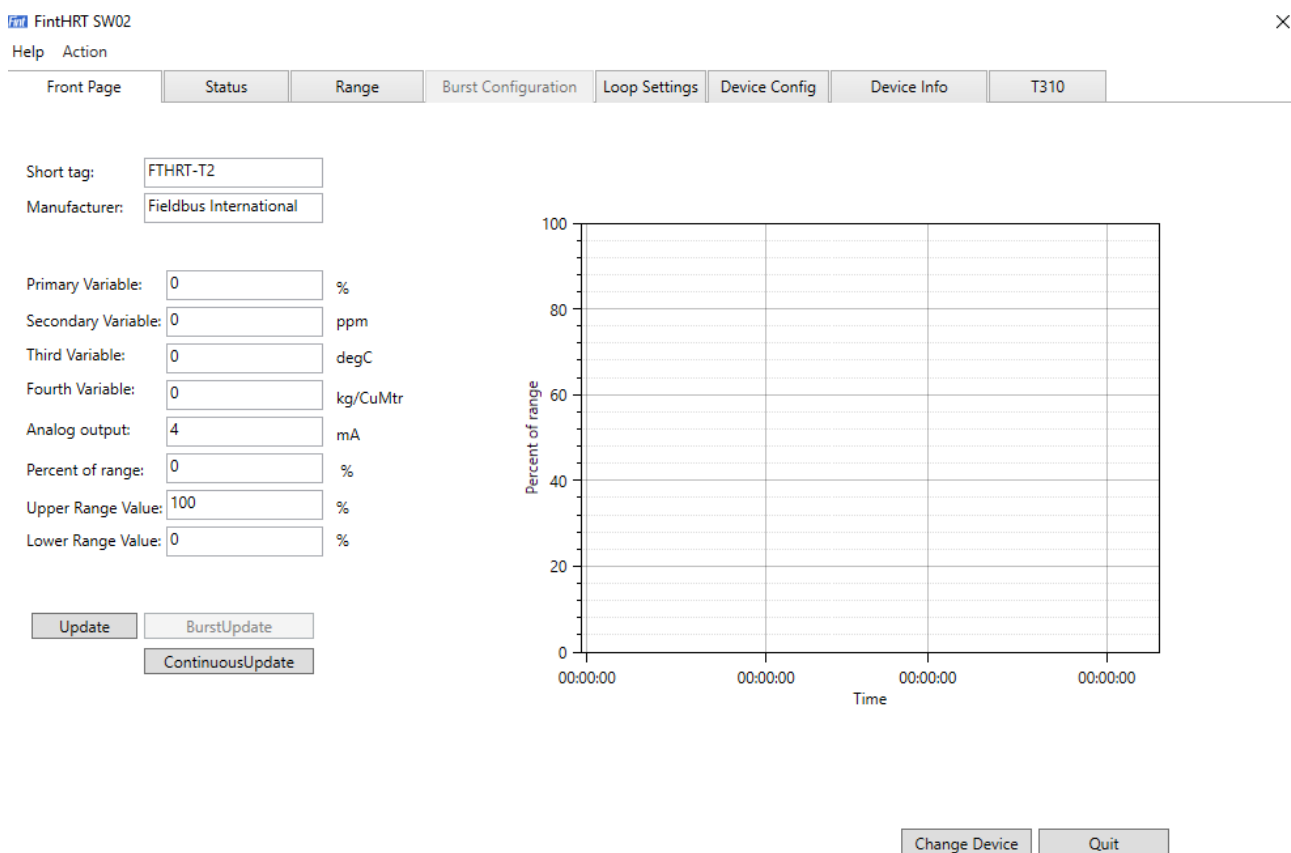

Figure 17. The appearance of the Front page in SW02
The Primary Variable (PV) can be shown in a window as a function of time. See Figure 17. The readings are either fetched by the T310_H7 using Command 3 or Read Requests from the T310_H7 (Continuous Update). This will lead to two updates a second. An alternative is to use the Burst Update button. This will force the T310_H7 to send updates three times a second.